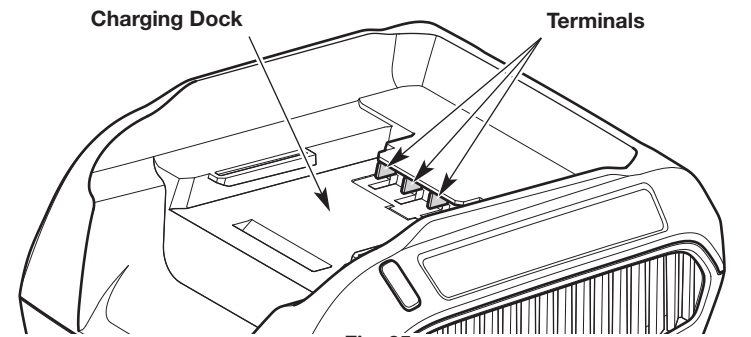

Fig. 25
- Keep the battery charger clean and clear of debris. Do not allow foreign material into the charging dock or onto the terminals (Fig. 25). Inspect the battery charger for foreign material before each use.